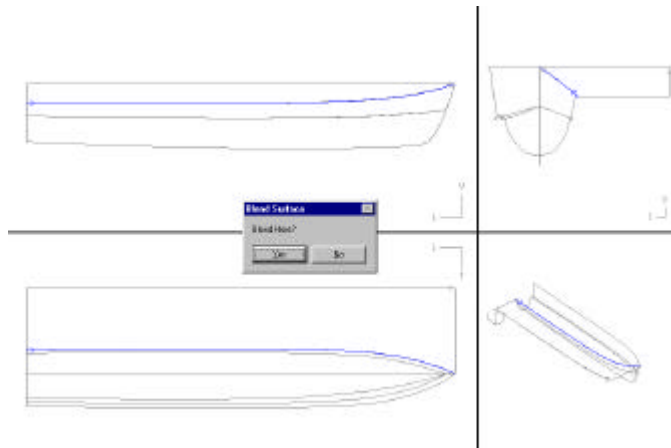

Figure 3-8: Fillet Panel
2. The intersection of the two surfaces will be highlighted and you will be prompted with *Blend here?* Answer **Yes** if the indicated path is correct. (See Figure 3-8.)